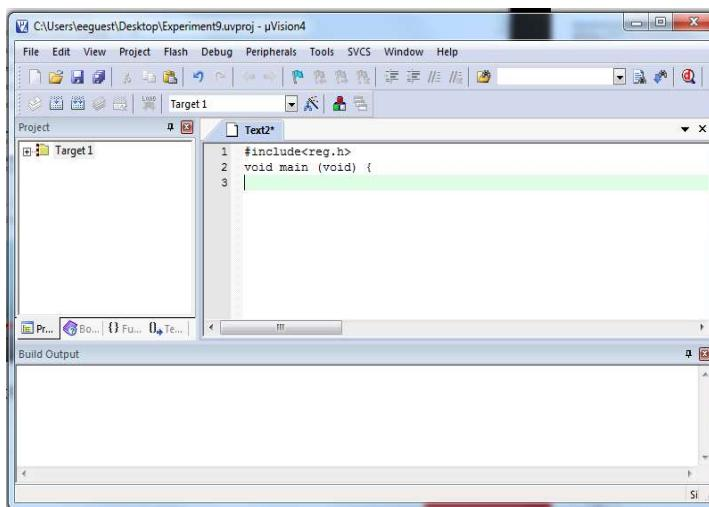

Figure 9.8: Space to write a code.
- 7) Write the complete code in the text space as shown in Figure 9.8.